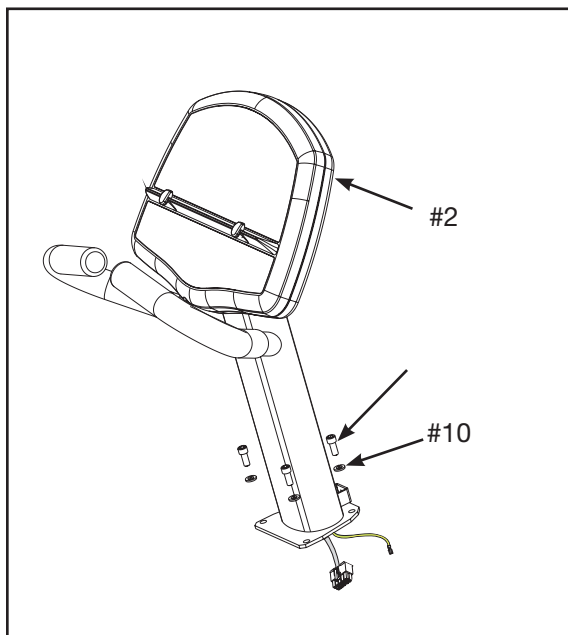

Figure 4
- A. Locate the console assembly (#2), four mounting screws 5-16-18 x .75 (#9) and four washers 5-16 (#10). See Figure 4.